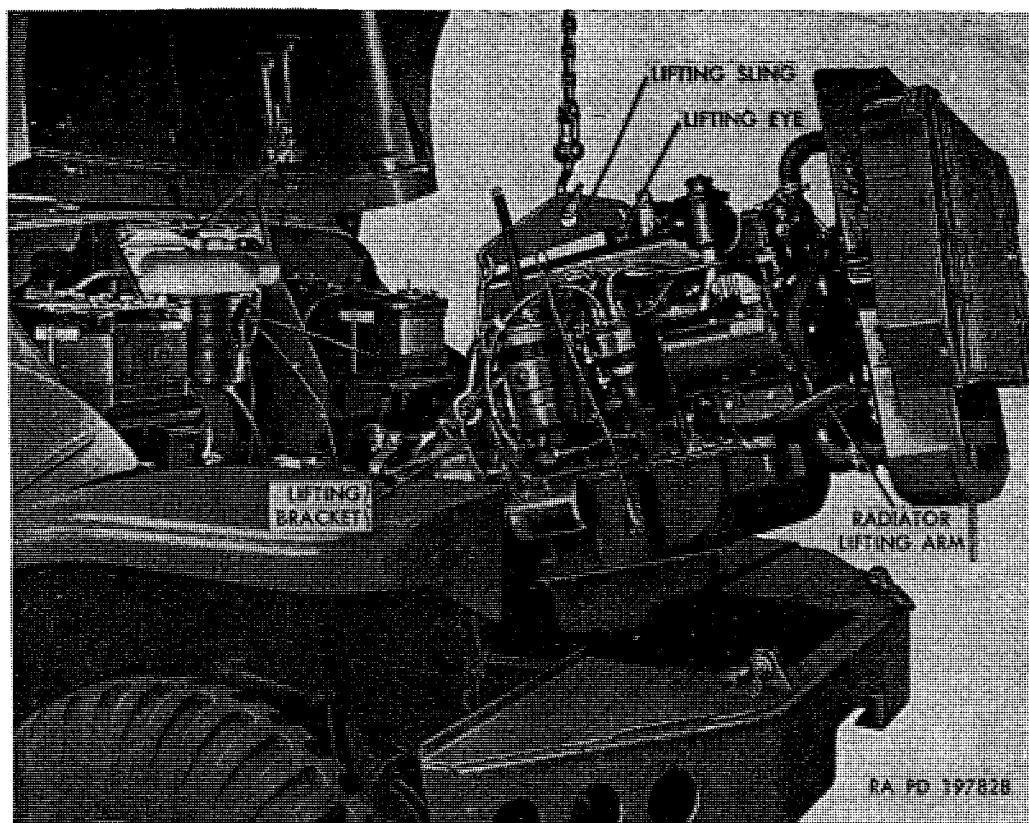

Figure 110. Removing power plant using engine lifting sling—B7950988.
c. Equipment. In addition to mechanic's common handtools, one special tool is required to accomplish power plant removal. Lifting sling B7950988 is necessary to lift power plant out of vehicle. Lifting eye on cylinder head special stud and a bracket at flywheel housing are located to provide proper balance when sling is attached for lifting power plant (fig. 110).
f. Removal From Vehicle (fig. 110).
- (1) Attach hoist to cross bar of engine lifting sling B7950988 (fig. 110); then engage short hook of sling with lifting eye on cylinder head stud and engage long hook at lifting bracket on flywheel housing.
- (2) Lift power plant off mountings, being careful to note if all lines, wiring, and attaching bolts have been removed. Move power plant forward in gradual stages, raising as necessary to clear front cross member. If vehicle has a winch, raise the power plant to provide necessary clearance. Move power plant forward, and support in manner which will permit access to drain plugs in transmission, torus cover, and engine oil pan.
- (1) Attach engine lifting sling B7950988 to lifting eye and lifting bracket at flywheel housing, then raise power plant high enough to clear frame and move into position in engine compartment as shown in figure 110.